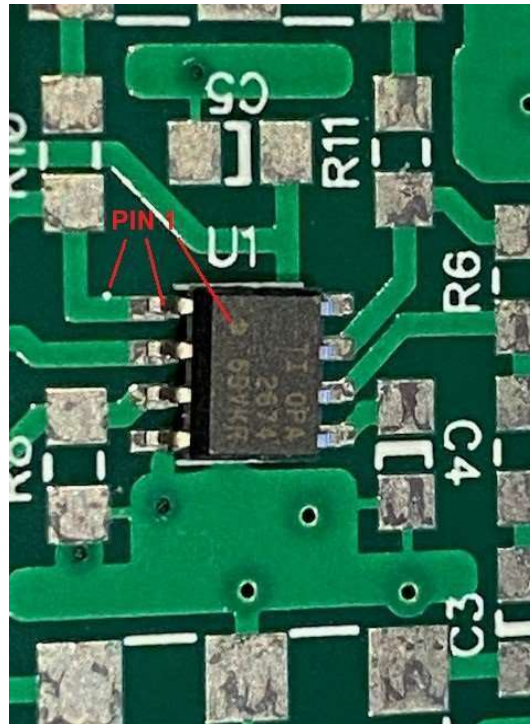

Figure 4. Location of PIN-1 For OPA2674 Part Placement On The PCB
3. Place semiconductors except for the RD16HHF1s (Q2, Q3) onto the board first. Note the U1 symbol on the PCB is at the top of the part (pin 1 left, pin 8 right, See Figure 4).